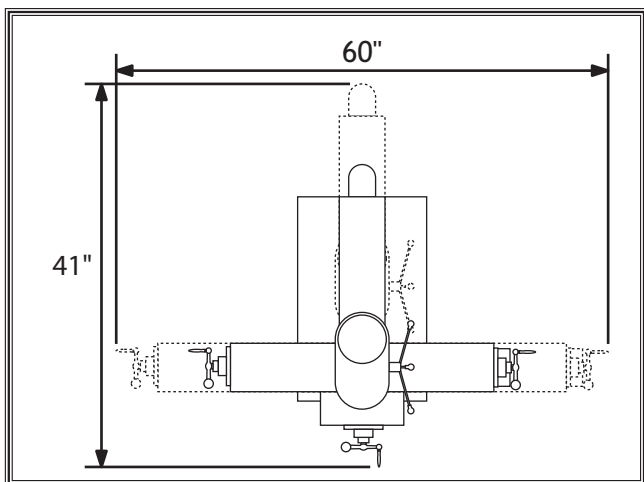

Figure 5. M1001 minimum working clearances.
- **Working Clearances:** Consider existing and anticipated needs, size of material to be processed through the machine, and space for auxiliary stands, work tables or other machinery when establishing a location for your vertical mill (see **Figure 5**).